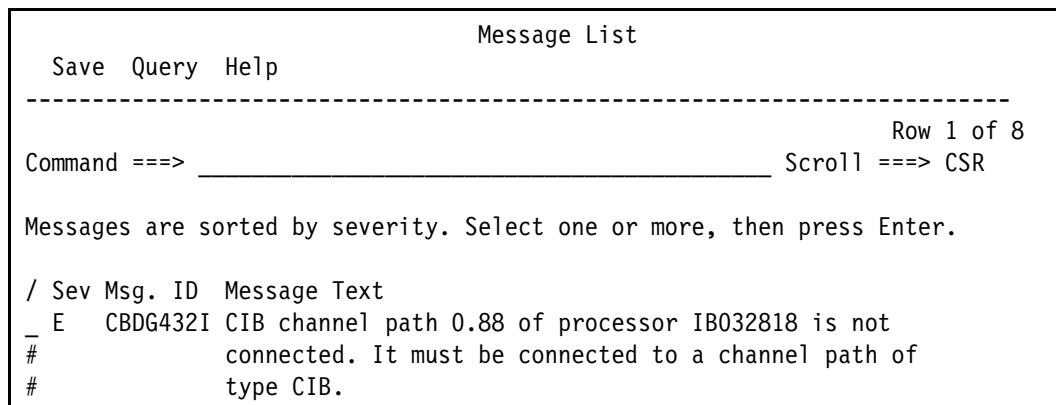

Figure 6-5 Error message for unconnected CIB CHPID when trying to build a validated work IODF
- ▶ All CIB CHPIDs defined in the IODF *must* be connected to another CIB CHPD before a production input/output definition file (IODF) can be built. Any attempt to build either a production or validated work IODF with unconnected CIB CHPIDs results in a message similar to that shown in Figure 6-5.